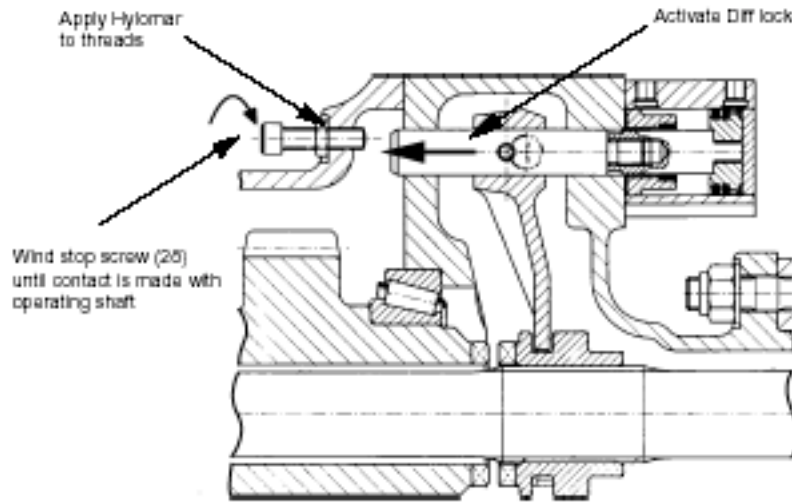

Fig. 21 - Setting 3rd Diff Lock Mechanism
1. Loosen locknut (29) then screw out stop screw (28) from helical gear housing (26). See Fig. 21.
2. Apply pressure to engage diff lock. To check that lock is engaged, hold front coupling flange (2) stationary, and try to turn differential shaft (73) at rear flange. If lock is engaged, both flanges will rotate together.
3. With operating shaft (42) fully forward, apply Hylomar to stop screw threads (28) and screw in until it just touches end of operating shaft (42). Release pressure on operating cylinder (40) and tighten stop screw a further half a turn and tighten locknut (29) to 13 - 15 lbf ft (18 - 20 Nm). This will allow approximately 0.020 inch (0.51 mm) clearance for clutch dog faces (63) when fully engaged.
4. Engage then disengage operating cylinder (40) five times using air pressure and observe that cylinder moves smoothly in both directions.